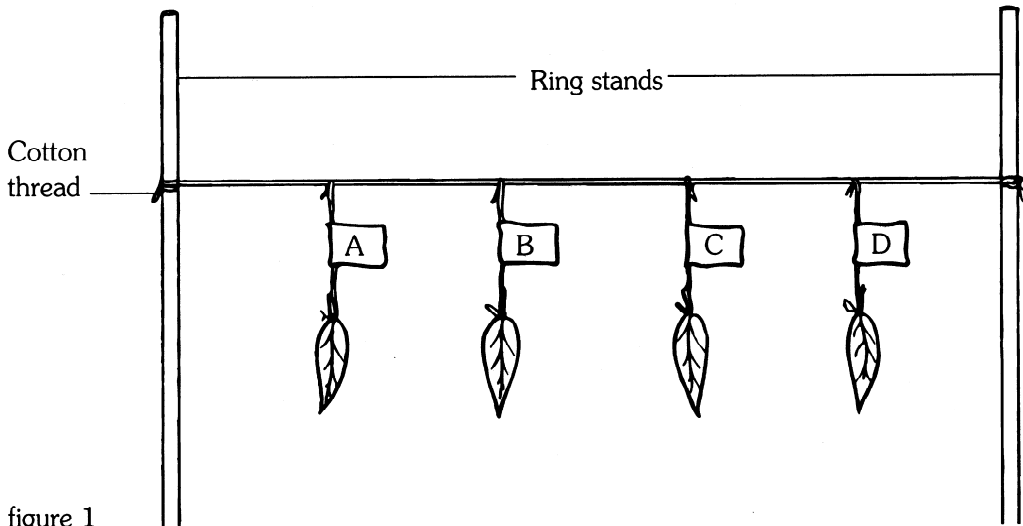

figure 1
11. Take the remaining leaf, leaf D. Smear a thin layer of petroleum jelly on BOTH surfaces of the leaf. Repeat steps 5 and 6, tying this leaf to the right of leaf C. Mark it "D" on the masking tape. (See figure 1.)